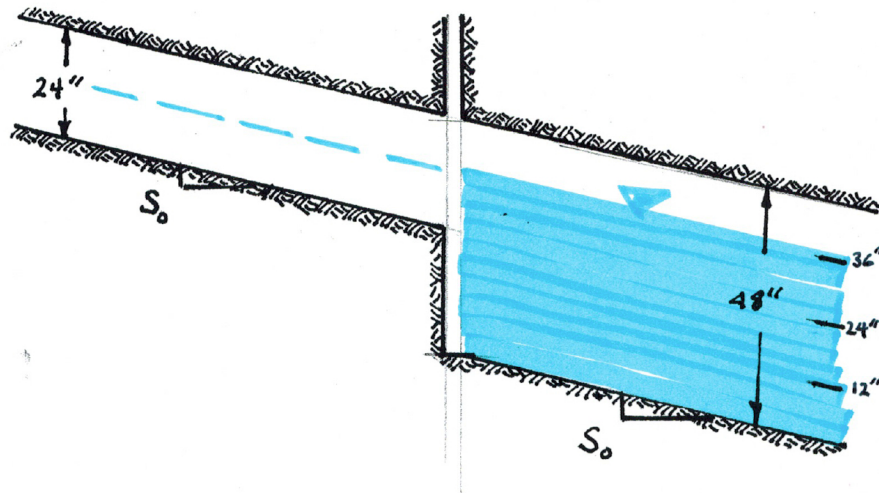

Figure 5: Sewer pipes connected at a junction box. Matching soffit elevations.
8. Figure 5 is a sketch of a 24 inch line with Manning's n of 0.015, laid on a slope of 0.01, connecting to a 48 inch line (also at 0.01) at a junction box. The soffit(crown) elevations match at the junction box. The downstream boundary conditions cause the flow depth in the 48 inch line to be 36 inches deep.